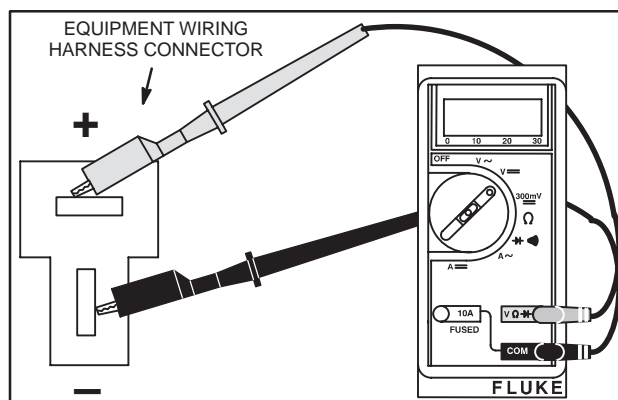

Fig. 61 – Checking Wiring
2. Insert meter test leads into wiring harness connector as shown in Fig. 61. Then turn keyswitch to ON position.